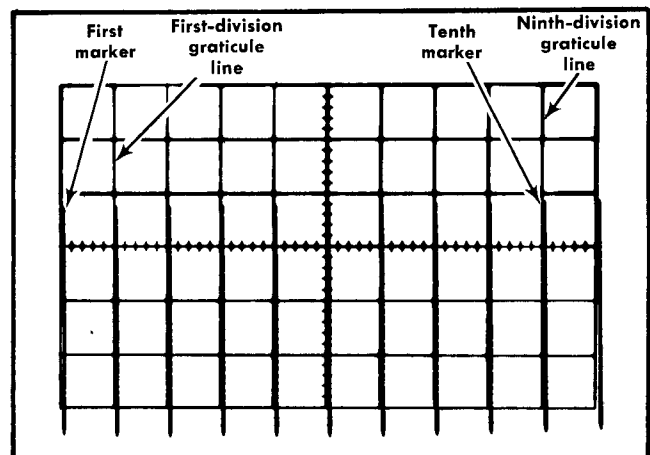

Fig. 5-19. Typical CRT display showing correct A sweep timing.
a. CHECK—Using the A TIME/DIV switch and time-mark generator settings given in Table 5-2, check A sweep timing within 0.24 division, over the middle eight divisions of the display (within 3%). Fig. 5-19 shows a typical CRT display when checking sweep timing.